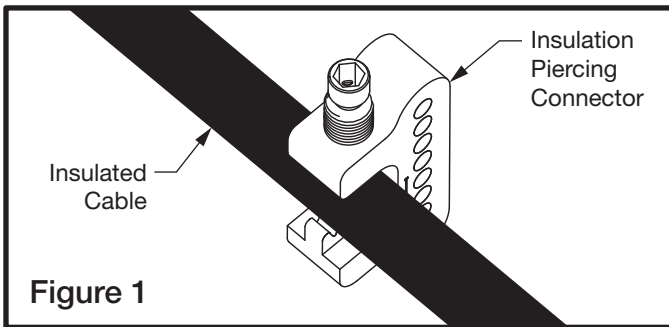

Figure 1
- 1) Place the Insulation Piercing Connector on the insulated cable (see Figure 1).